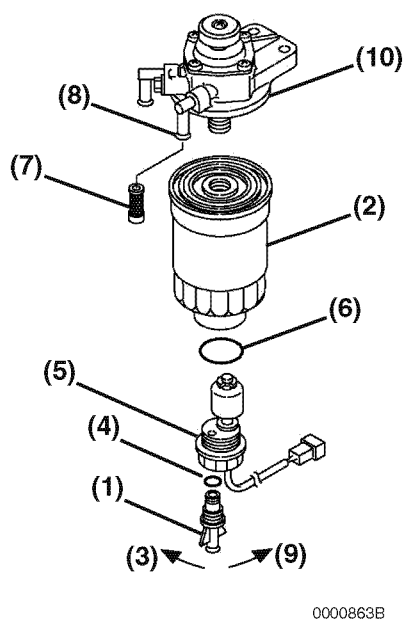

Figure 5-15
5. Carefully open the drain plug (Figure 5-15, (1)) to drain fuel from the fuel filter.
7. Remove the drain plug (Figure 5-15, (1)) from the fuel filter (Figure 5-15, (2)) by turning it to the left (Figure 5-15, (3)).
8. Check the condition of the drain plug O-ring (Figure 5-15, (4)). Replace the O-ring if damaged.
10. Remove the fuel filter sensor assembly (**Figure 5-15, (5)**) by turning it to the left (**Figure 5-15, (3)**).
11. Carefully remove the in-line fuel filter (**Figure 5-15, (7)**) from the output nipple (**Figure 5-15, (8)**) that goes to the fuel injection pump.
13. Carefully install the new in-line fuel filter (**Figure 5-15, (7)**) into the output nipple (**Figure 5-15, (8)**).
14. Carefully install the fuel filter sensor assembly (**Figure 5-15, (5)**) in the new fuel filter using the new O-ring supplied with the fuel filter (**Figure 5-15, (2)**) by turning the fuel filter sensor assembly to the right (**Figure 5-15, (9)**).
15. Install the drain plug (**Figure 5-15, (1)**) on the new fuel filter (**Figure 5-15, (3)**) by turning the drain plug to the right (**Figure 5-15, (8)**). Hand tighten only.
16. Clean the fuel filter mounting surface (**Figure 5-15, (10)**) and apply a small amount of diesel fuel to the gasket of the new filter.
Applicable In-Line Fuel Filter Part No. (Figure 5-15, (7))